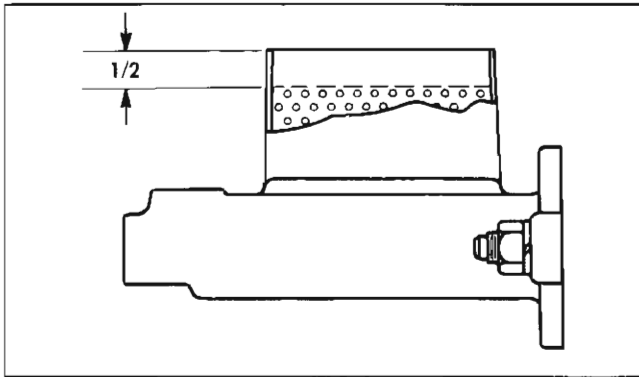

Fig. 5-8 Correct Fluid Level in Master Cylinder
4. When bleeding operation is completed, refill reservoir to within  $\frac{1}{2}$ " of top of master cylinder filler neck gasket surface then replace filler cap (Fig. 5-8).